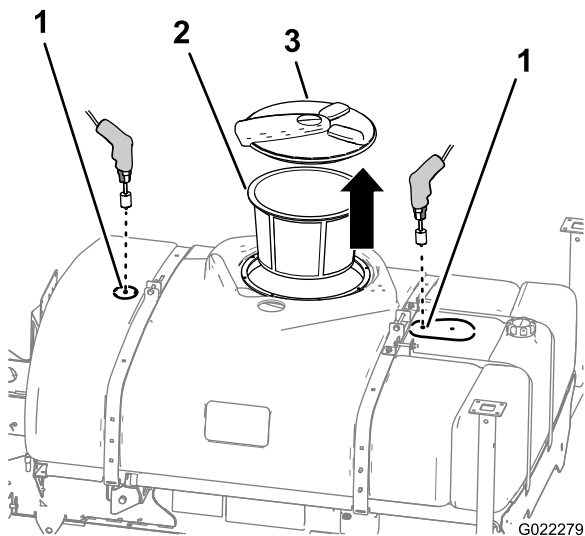

Figure 4
- 1. Remove the tank lid and the strainer basket from the tank (Figure 4).
- 2. Locate the 2 drill marks on the main tank (Figure 4).
- 3. Use a 4 cm (1-5/8 inch) hole saw to drill a hole at each drill mark (Figure 4).